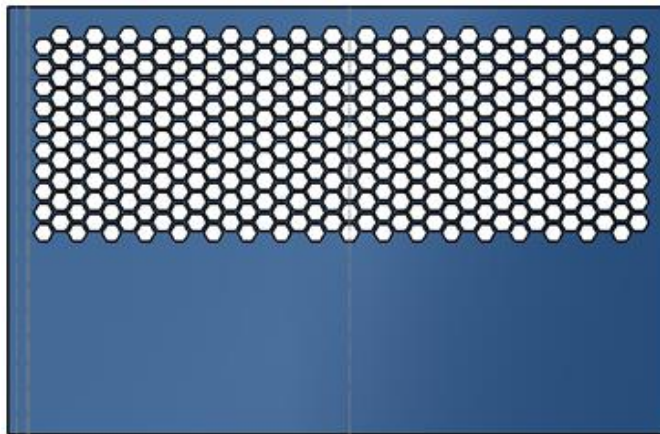

Figure 17d
3. Recreate the feature pattern in the derived configuration (Figure 17d).